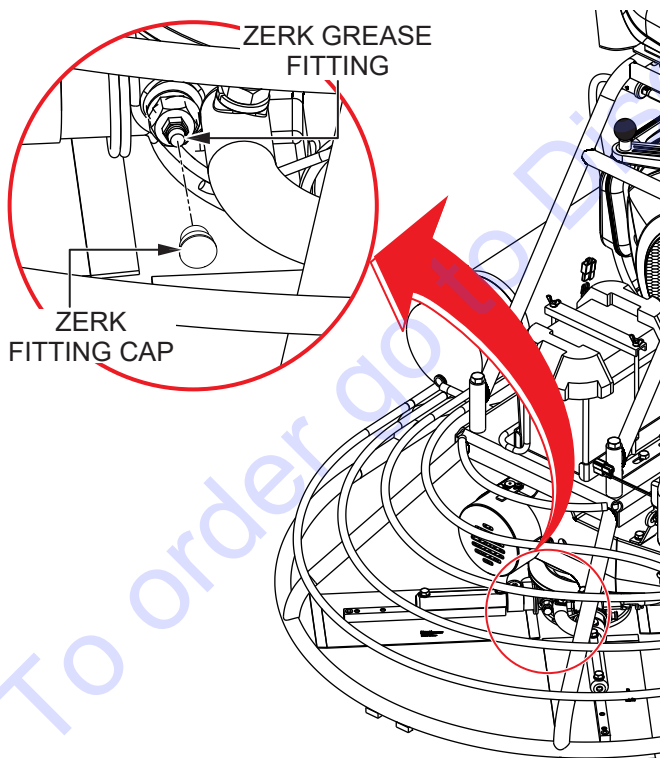

Figure 40. Spider Lubrication
1. Locate one of the Zerk grease fittings on either spider assembly (Figure 40). Remove the Zerk fitting cap and set it aside.